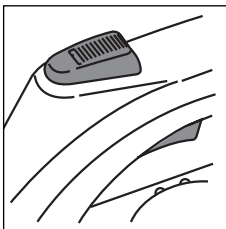

fig. 7
- To obtain steam, press either the steam button on the top or the underside of the iron's handle (fig.7). Choose which ever is most comfortable for you. The steam stops as soon as you release the button.